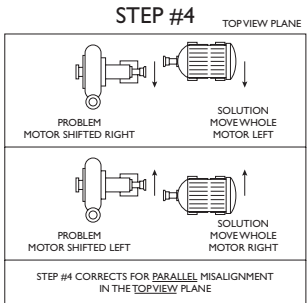

Fig. 30-8
4. Correct for parallel misalignment in the top view plane (Fig. 30-8).